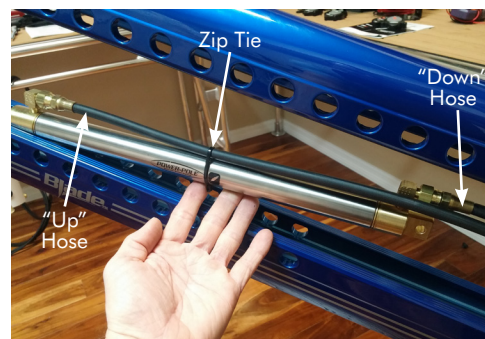

Figure 7
STEP 6 Pull the "Up" & "Down" hydraulic hoses to the appropriate hydraulic cylinder fittings and finger tighten. (**FIG. 7**)
STEP 9 Secure the "Up" hydraulic hose to the middle of the hydraulic cylinder using one of the supplied zip ties. (**FIG. 7**)